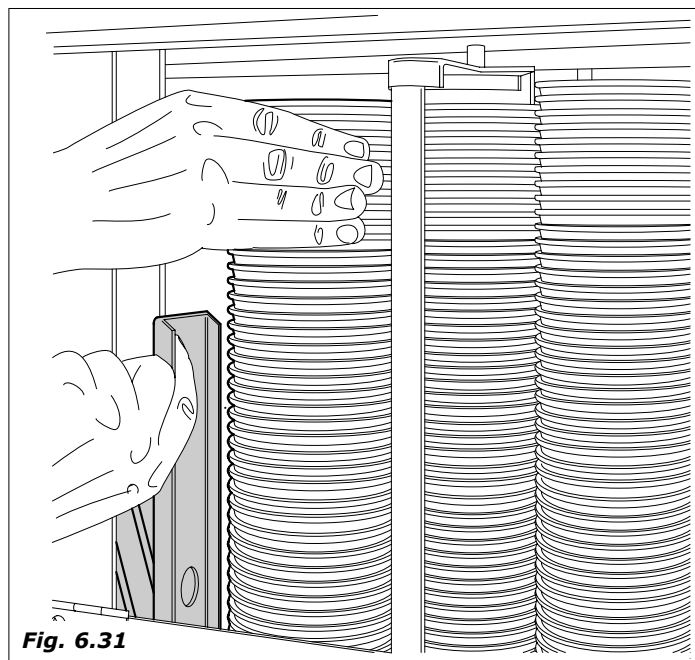

Fig. 6.31
- complete the loading operation by inserting two columns of cups on the left side (Fig. 6.31).